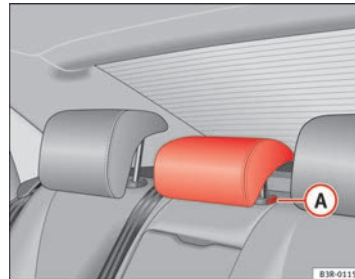

Fig. 111 Centre rear seat: Head restraints
- Press button **A** ⇒ Fig. 111 and lower the head restraint.
- Press button **A** ⇒ Fig. 111 and pull out the head restraint.